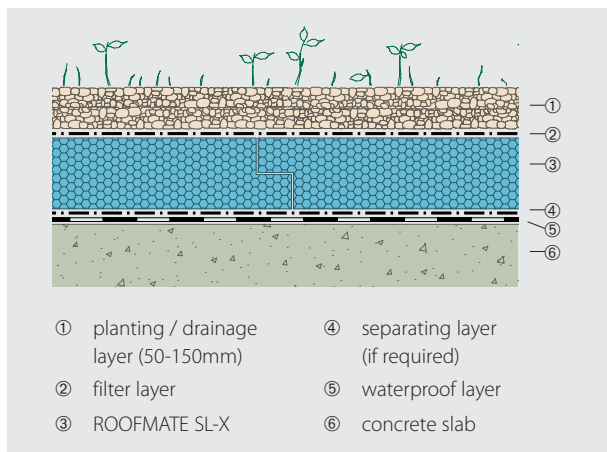

Figure 24 >> Extensive green roof
An inverted roof with ROOFMATE insulation is the ideal solution for 'green' roofs where landscaping or planting is provided. The insulation boards protect the waterproof layer and the planting provides necessary ballast (Figures 24 and 25).
- »» **extensive:** using a thin plant-bearing layer (50-150mm) and hardy plants such as sedums and grasses. Extensive green roofs are not usually intended for access. Once the planting is established - which may take only a few months - it requires very little maintenance (Figure 24).